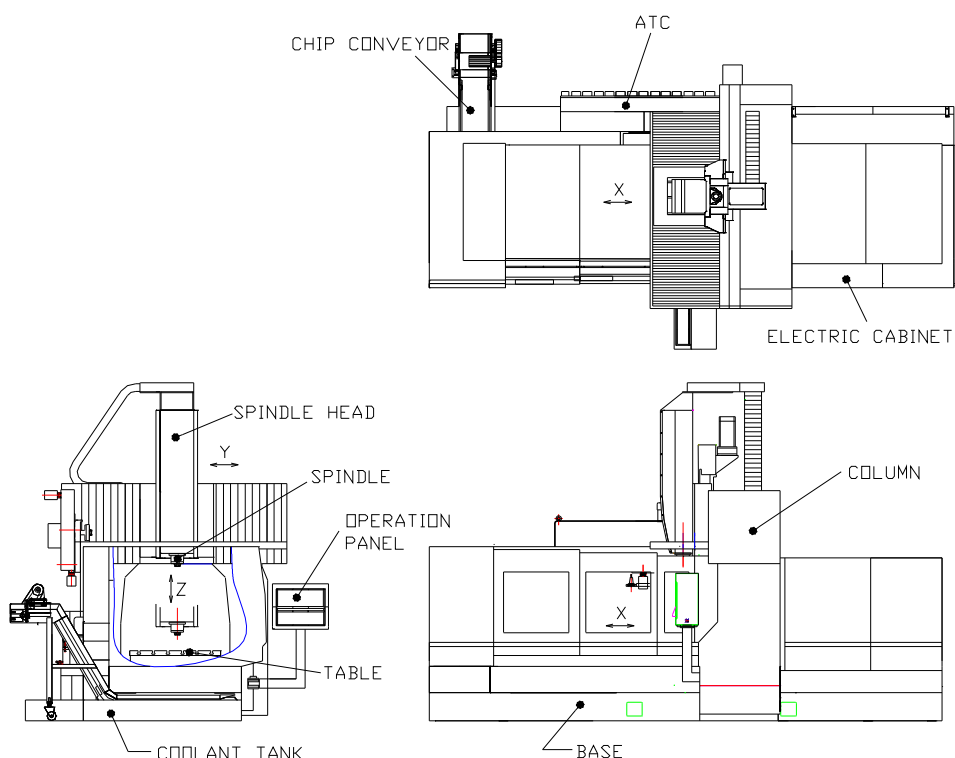

FIG. 2.1.1 PRINCIPAL COMPONENT NAME
- C. THE APPEARANCE AND PRINCIPAL DIMENSIONS OF THE MACHINE AND THE NAME OF EACH PRINCIPAL COMPONENT ARE AS SHOWN IN FIG. 2.1.1 AND 2.1.2